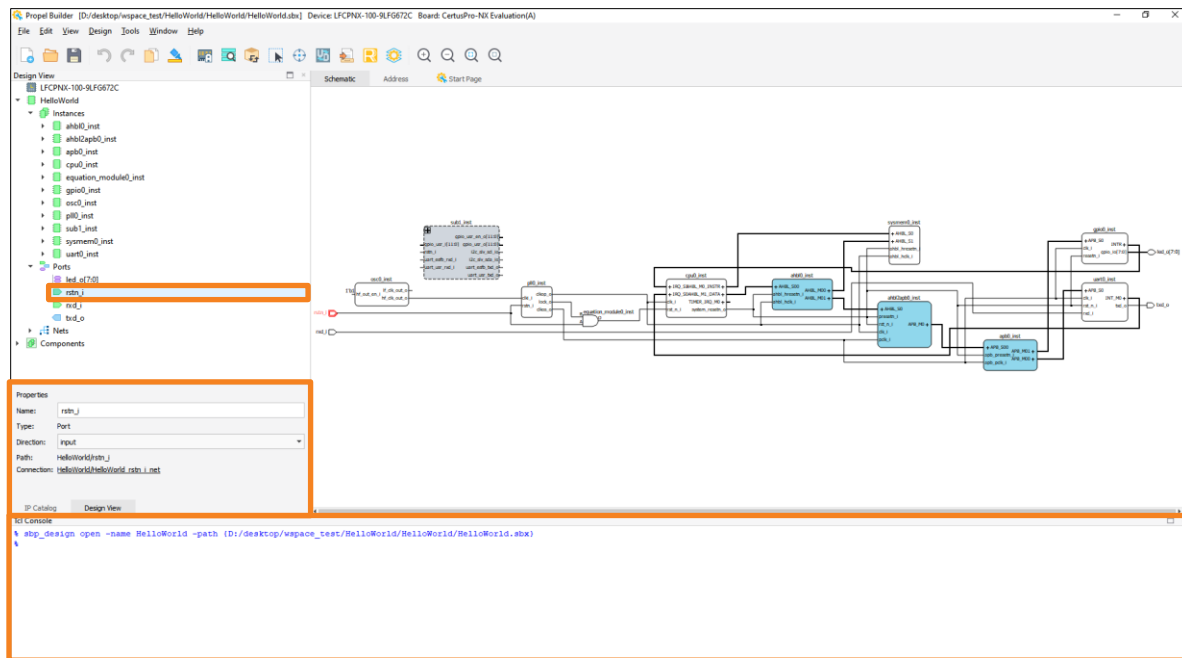

Figure 2.120. Properties of Port
- a. Click on a port, **Properties** window open (Figure 2.120).